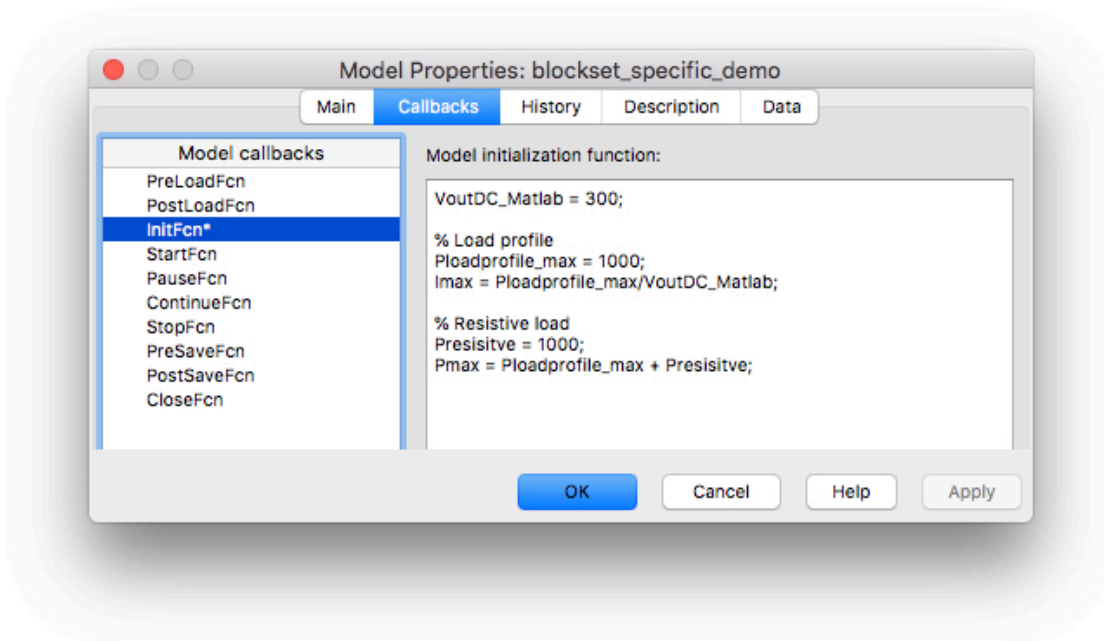

Figure 5: Initialization to the MATLAB base workspace by the InitFcn of the Model Properties Callbacks
- **Model callbacks:** Variables for a Simulink model, including any embedded PLECS Circuit blocks, can be initialized in the **InitFcn** tab of the **Model Properties + Callbacks**. In this case variables are initialized to the MATLAB base workspace. To access this menu right-click on the Simulink schematic and navigate to **Model Properties**. For this example initialization commands are depicted in Fig. 5.
Note In all official PLECS Blockset demo models the variables are initialized in the **InitFcn** of the **Model Properties Callbacks**, as shown in Fig. 5.